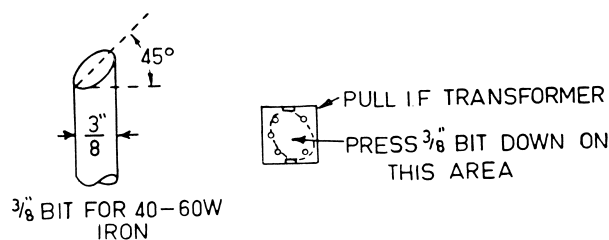

FIG. 9—SOLDERING BIT AND I.F. REMOVAL.
3. To remove an i.f. transformer or oscillator coil it is desirable to have a suitable tip on the soldering iron as shown in Fig. 9. All seven connections on the transformer may be freed simultaneously and the transformer pulled from the board. This is the only satisfactory method; any other method using smaller irons will generally result in damage to either the board or the transformer or to both. The construction of the transformer is shown in Fig 5.